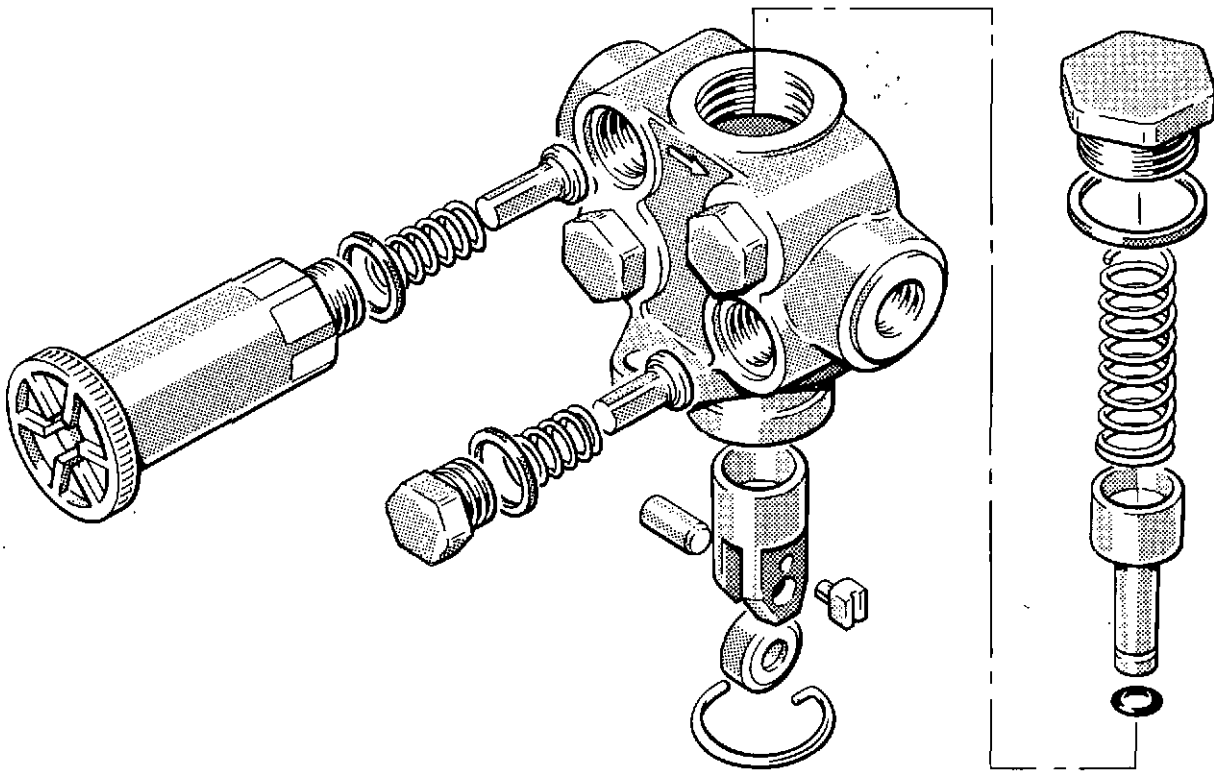

Fig. 2 Fuel feed pump (mechanical)
- 1 Depending on application, slacken the bleed screw on the spill block or injection pump body, two or three turns. Unscrew the priming pump cap on the fuel feed pump (fig. 2), and operate the hand priming pump until bubble-free fuel emerges from the drain pipe.